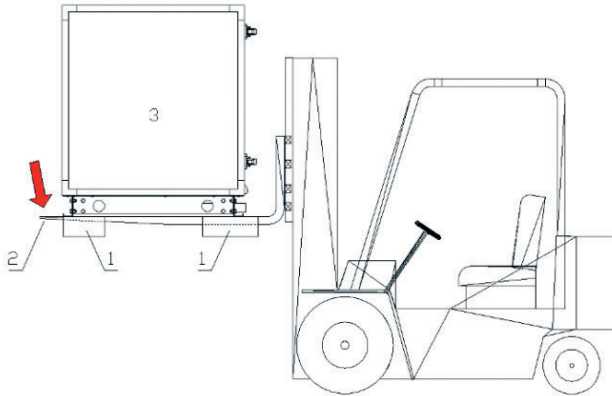

Figure 5
- Forklifts may exert pressure only to the bottom frame of the air handling unit. The fork should reach beyond the outermost part of the structural frame – Figure 5.